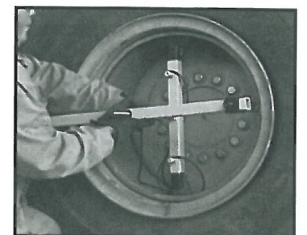

FIGURE 3
3. Slide top cross bar assembly over the threaded center rod at the nine and three o'clock positions, so that the push bar lines up against the rim flange. Adjust for the tire diameter of the wheel by loosening and tightening set bolts as needed (**See Figure 3**).